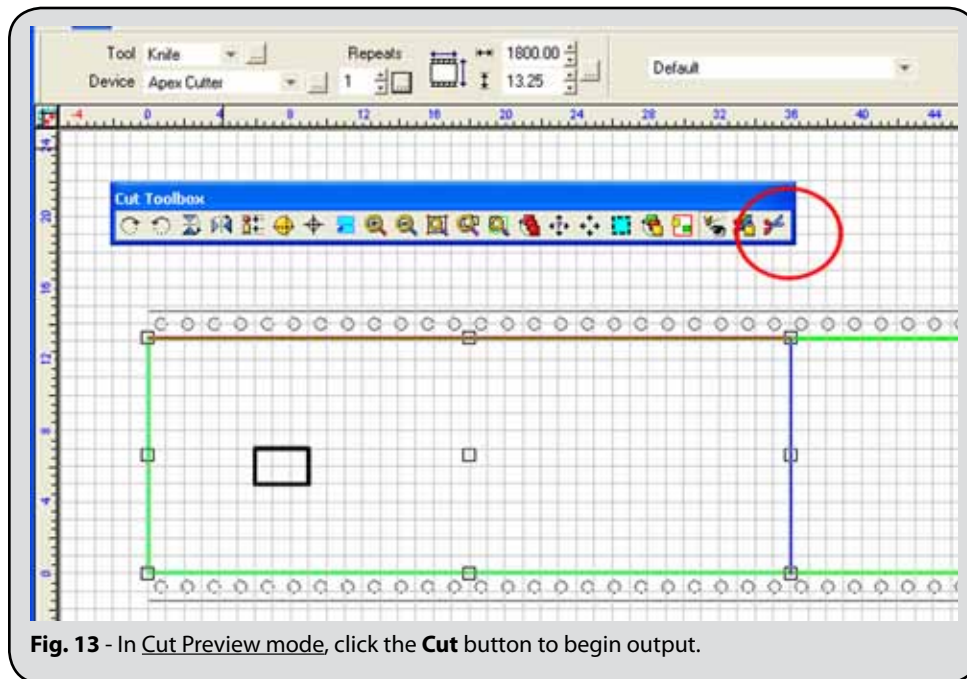

Fig. 13 - In Cut Preview mode, click the **Cut** button to begin output.
2. The tool path will be previewed as it will be cut upon the material, and a green bounding rectangle used to represent the machine limits (Fig. 13).